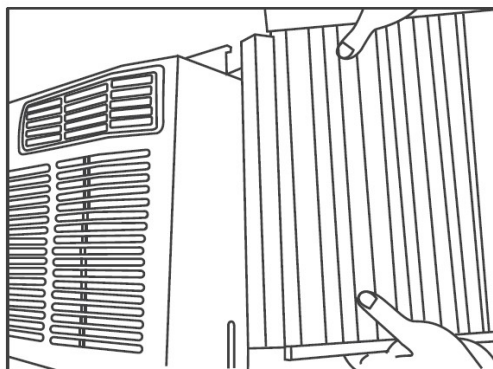

Fig.3
- Slide the free end of the accordion panel into the side panel of the air conditioner (See Fig.3). Do this for each side.